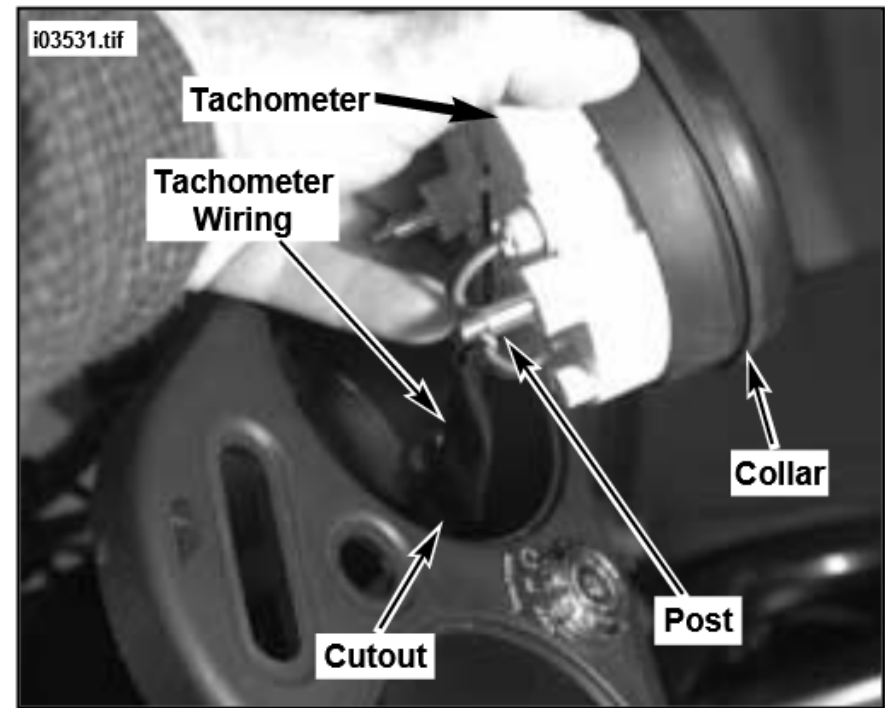

Figure 7. Install Tachometer
- a. See Figure 7. Obtain new cushion (Part Number Y0604.01A3) from kit. Route wiring from tachometer through cushion and slide the cushion onto the gauge with the collar (ridged portion of cushion) facing the top of the gauge.